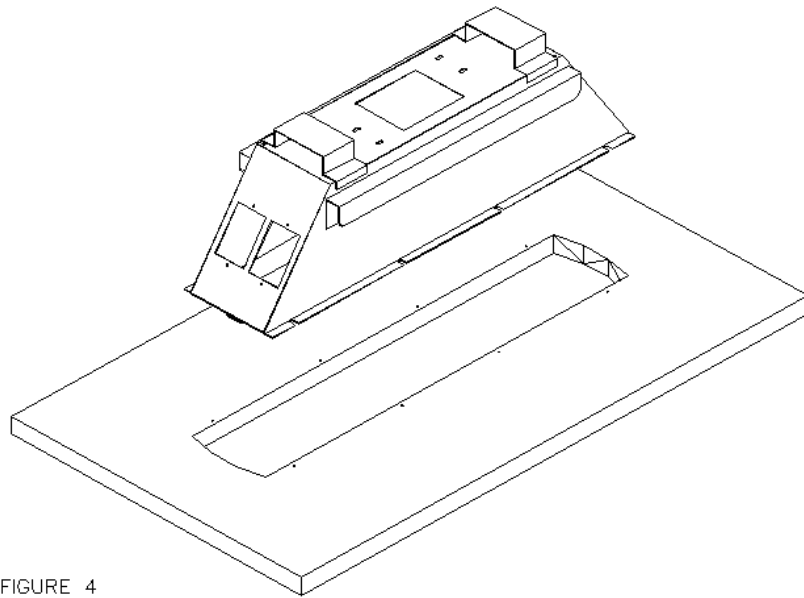

FIGURE 4
- A) Using #8 x 3/4" screws, attach the power center to the underside of the table. There are pre-bored holes around the perimeter of the power center slot to ensure accurate placement. **(Figure 4)**